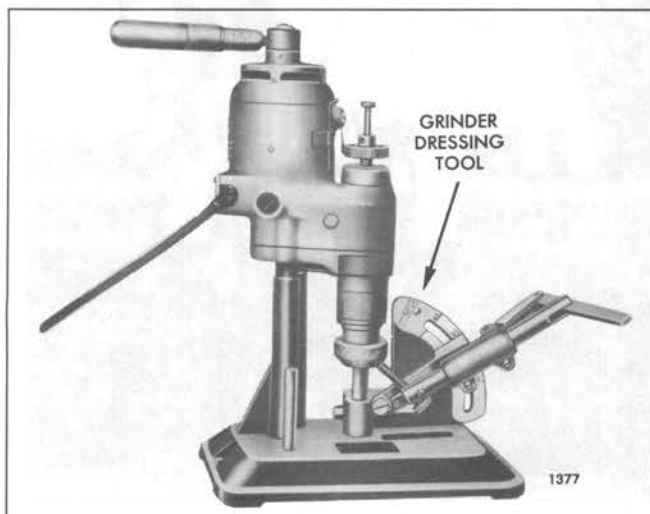

Fig. 14 – Grinding Wheel Dressing Tool of Set J 24566
4. When occasion requires, the grinding wheel may be dressed to maintain the correct seat angle with the dressing tool provided with the grinder set (Fig. 14).